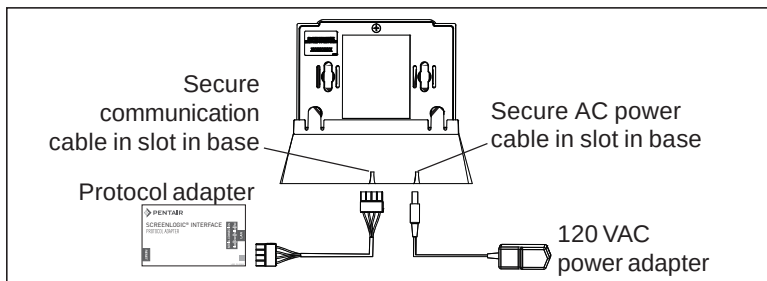
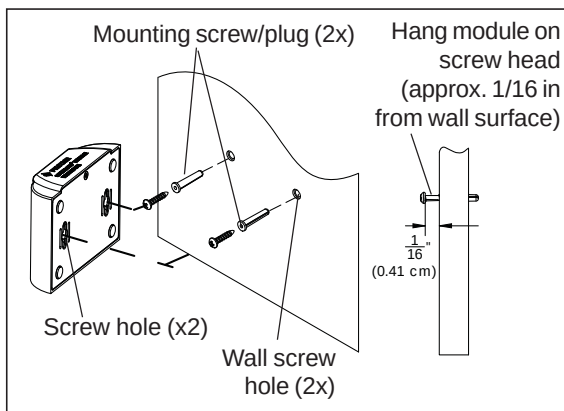
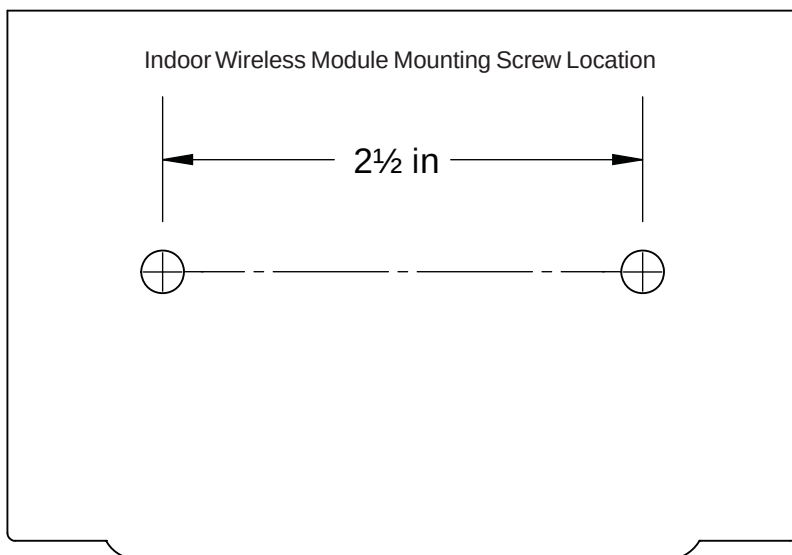

Figure 1: Cradle/Desktop Mount the Indoor Wireless Transceiver
Figure 2: Wall Mount the Indoor Wireless Transceiver
Figure 3: Wall Mount Template for Indoor Wireless Transceiver
1. Using the 1 ft. connection cable, connect one end of the cable to the Protocol Adapter and the other end to the Indoor Wireless Transceiver. See Figure 1 and Figure 2. The cable plugs are keyed for easy connection.
Cradle/Desk Mount the Indoor Wireless Module (Figure 1)
1. Insert the power cable into the base of the Indoor transceiver cradle. Fasten the cable into the cradle slot (see Figure 1 on next page).
2. Insert the connection cable into the base of the Indoor transceiver cradle. Fasten the cable into the cradle slot (see Figure 1 on next page).
Wall Mount the Indoor Wireless Transceiver (Figure 2 and Figure 3)
2. Drill two holes (0.223 in) 2-1/2 inches apart as shown on the template (see Figure 3 on next page).
4. Insert the screws into the wall plug. Don't insert the screws all the way into the wall, leave about 1/16 in for the wireless transceiver to hang on the head of the screws (see Figure 2 on next page).